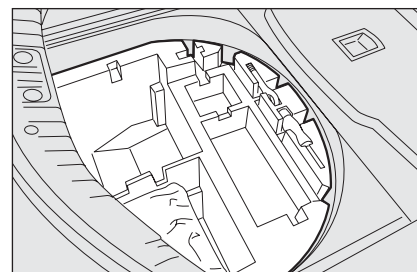

fig. 4
- ☐ for versions fitted with "quick tyre repair kit Fix&Go" take the tool container **fig. 4** out of the boot;